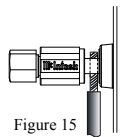

Figure 15
13. Referring to the illustration connect the Loudspeaker hookup cables to the XR100 Negative (-) Input Terminal and Positive (+) Input Terminal. Insert the spade lug connector or prepared section of the cable end into the Input Terminal side access hole, and tighten the Input Terminal cap until the cable is firmly clamped into the terminals so the lugs or wire cannot slip out. Refer to figures 15 and 16. Then connect cables to the XR100 HIGH/MID Negative (-) and Positive (+) Input Terminals.